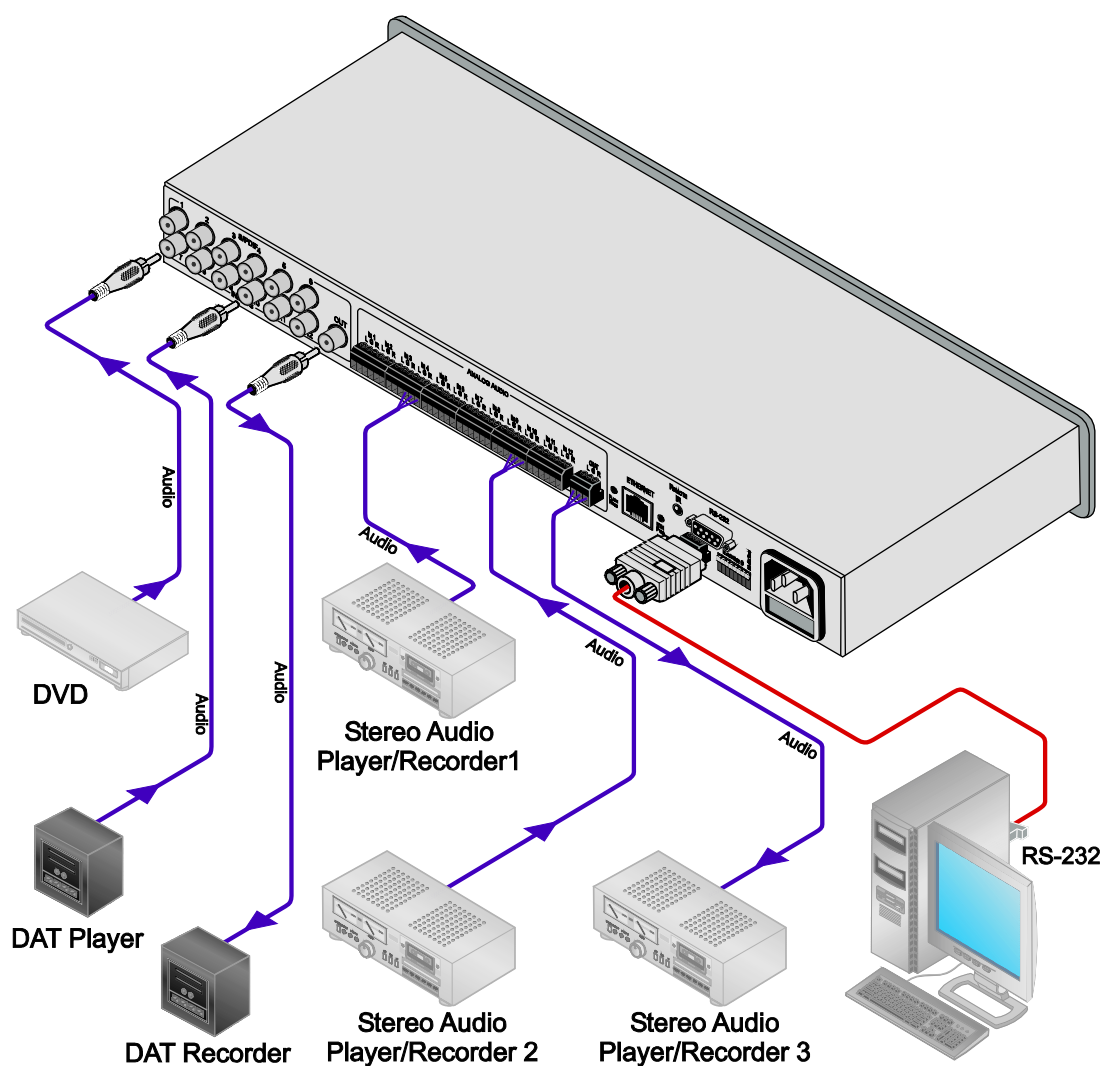

Figure 2: Connecting the VS-121HCA Stereo Audio S/PDIF Switcher
To connect devices to the **VS-121HCA**, as illustrated in the example in Figure 2, perform the following¹:
3. Connect the power cord (not shown in Figure 2).